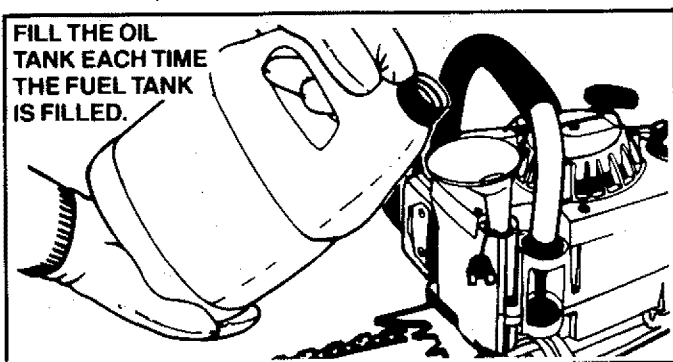

Figure 11
1. Hold the tip of the guide bar up and turn the adjusting screw just until the chain does not sag beneath the guide bar. Figure 11.
- Turn saw on its side with oil cap up. Figure 11.